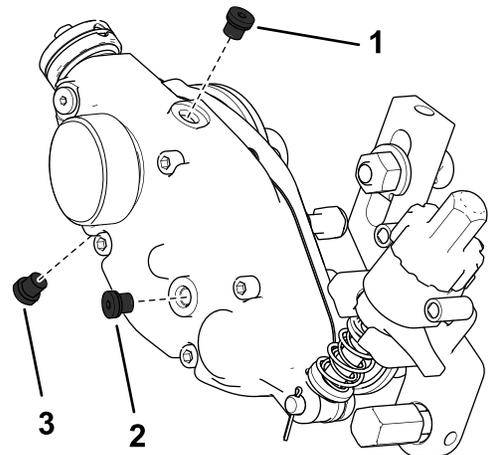

Figure 30
2. Remove the drain plug on the bottom of the housing (Figure 30).
3. Remove the fill plug on the side of the housing and loosen the air vent plug on the top so air can pass through (Figure 30).